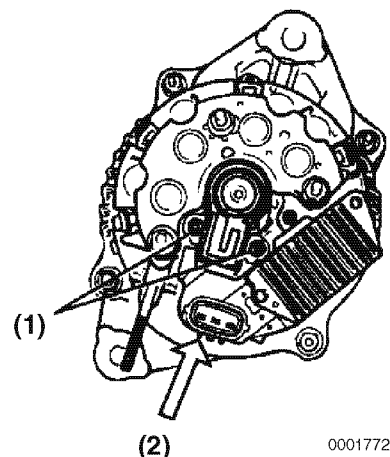

Figure 11-26
9. Press as shown (**Figure 11-26, (2)**) and secure with the two bolts (**Figure 11-26, (1)**).